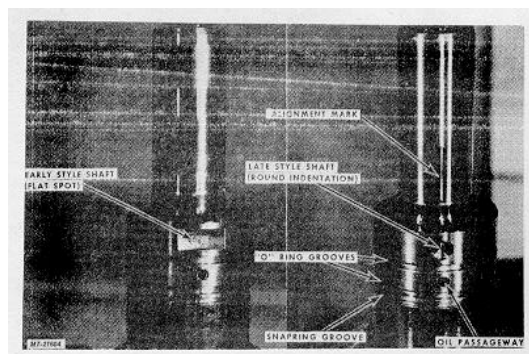

Fig. 74
37. Figure 74 illustrates the two different type shafts used in the fan drive clutch.